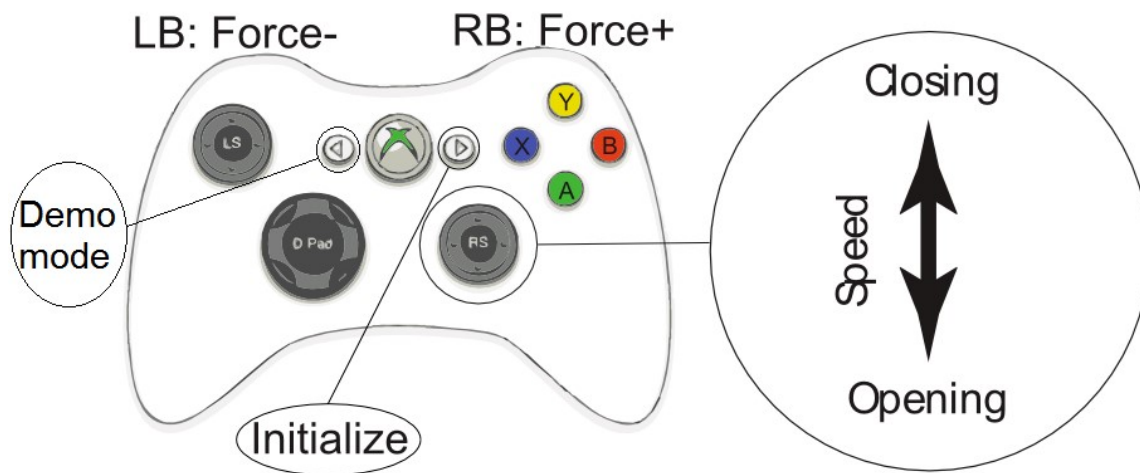

Figure 5.2.2.1 : Xbox Controls for the 2-Finger Adaptive Robot Gripper series.
- **Xbox Joystick control** allows control of the Gripper using a remote Xbox controller (see Figure 5.2.2.1 for a summary of the available controls).